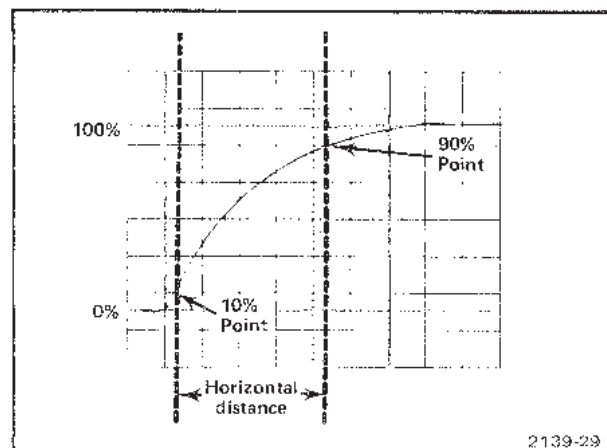

Fig. 1-6. Measuring risetime.
4. Set the time-base triggering controls to obtain a stable display. Set the Seconds/Div switch to the fastest sweep rate that will display less than eight divisions between the 10% and 90% points on the waveform (see Fig. 1-6).